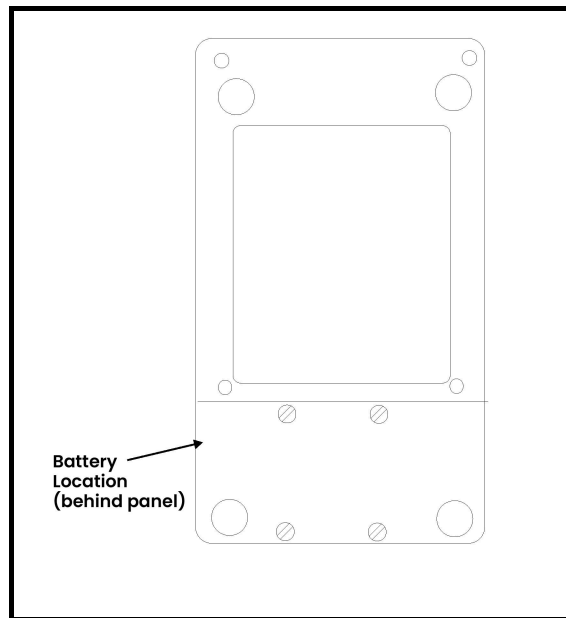

Figure 73: NiMH Battery Location
2. Remove the four thumb screws on the back panel that secure the NiMH battery pack. Lift the battery pack out of the unit. See Figure 73.